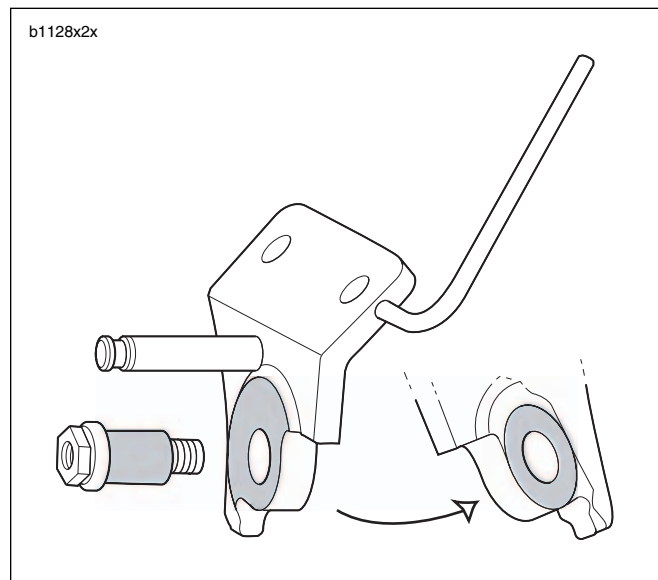

Figure 3. Lubricating Points (Shaded Areas)
1. Install sidestand leg (1).
- a. See Figure 3. Lubricate sidestand pivot bolt and mating portions on sidestand bracket with WHEEL BEARING GREASE (Part No. 99855-89).